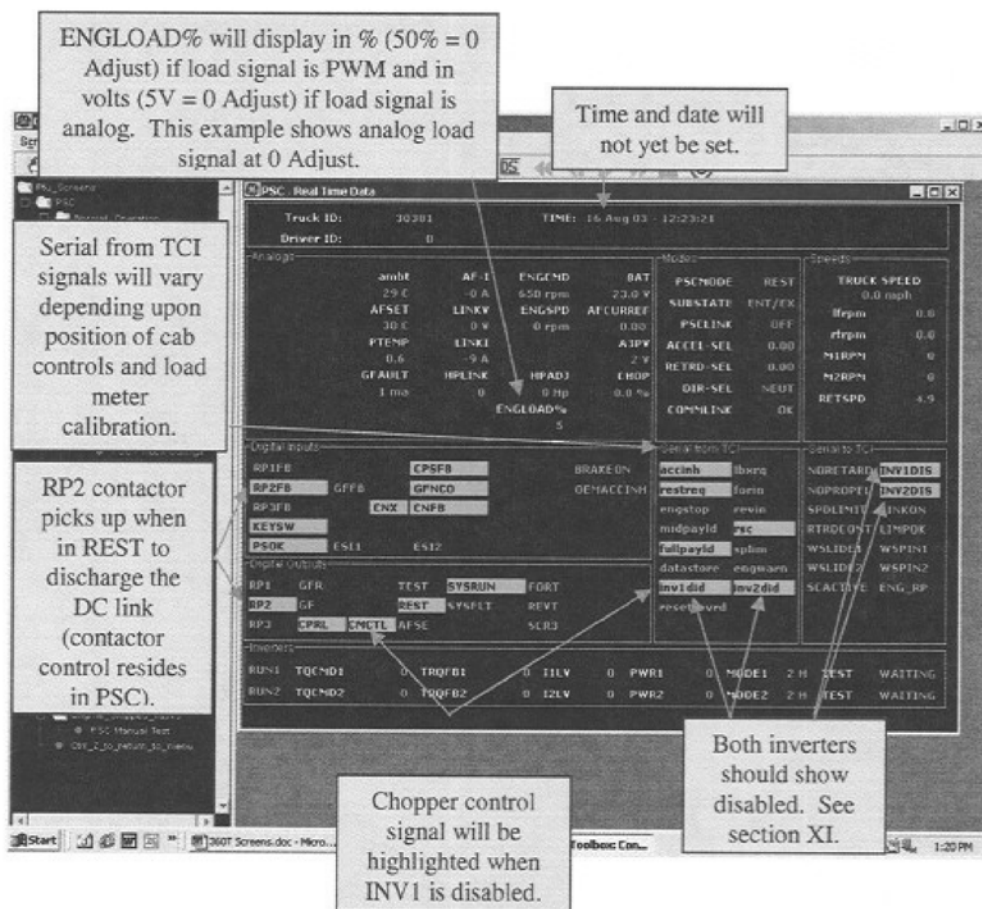

FIGURE 3-3. PSC REAL TIME DATA SCREEN
1. With control power OFF, remove the appropriate card and locate the green plate with the battery near the card edge. (See Figure 3-3.)
- Verify that the analog values are similar to the example in Figure 3-3. Also, make sure that the correct truck ID is at the top of the screen and "COMMLINK" signal under "Modes" reads OK.
- ◆ The "PSC Manual Test" screen looks similar to the "PSC Real Time Data" screen in Figure 3-3. Clicking the buttons in the "Digital Outputs" field will toggle the output on and off. See Table III.